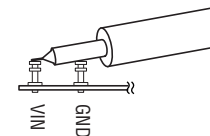

Figure 2. Scope Probe Placement for Measuring Input or Output Ripple
**NOTE:** When measuring the input or output voltage ripple, care must be taken to avoid a long ground lead on the oscilloscope probe. Measure the input or output voltage ripple by touching the probe tip directly across the Vin or Vout and GND terminals. See Figure 2 for proper scope probe technique.